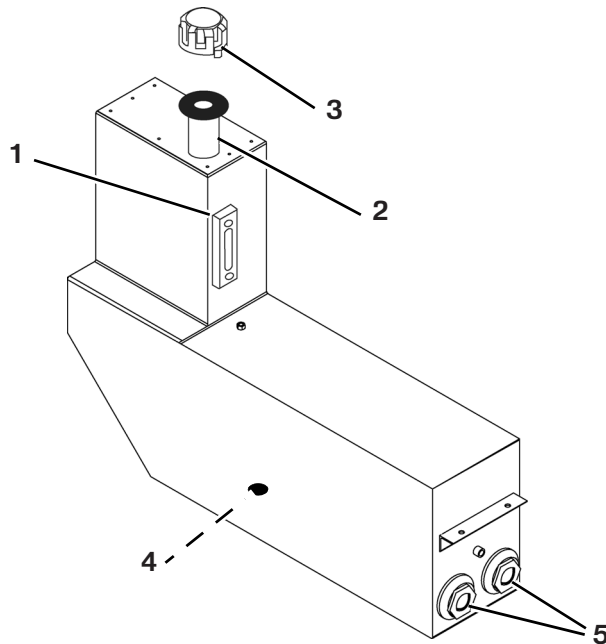

Figure 7-8
A 25 gallon hydraulic reservoir and filter(s) complete the Hydraulic System (Figure 7-8). This manual contains general system maintenance guidelines. Detailed service and maintenance information is available directly from the hydraulic component manufacturers.
The hydraulic reservoir is located on the right side of the LB Performance Model FB-90 Broom. The fill cap is on top of the reservoir. The hydraulic reservoir has a sight gauge on the right side used to monitor hydraulic oil levels (Figure 7-8, 1).
1. Check the level of hydraulic oil prior to each day's operation of the broom. Hydraulic oil should be visible in the sight gauge (Figure 7-8, 1). If not, fill the tank until oil is visible in the sight gauge.
2. The fill cap strainer (Figure 7-8, 2) should be cleaned each time hydraulic oil is added or changed.
3. The filler cap (Figure 7-8, 3) should be padlocked, when possible, to eliminate tampering.
6. Drain and replace hydraulic oil and filter after the first 100 hours of service, and after every 500 hours of service or annually, whichever comes first. Drain the hydraulic oil by removing the plug (Figure 7-8, 4). For convenience, a customer supplied drain hose can be attached to drain fluid into a container.
7. The suction strainer (Figure 7-8, 5) should be removed and cleaned at the 500 hour service interval or whenever the hydraulic oil is changed.